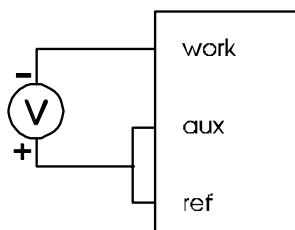

Fig. 4. Connection of the voltmeter.
5. Connect a voltmeter to the cell connections (see Fig. 4).The readout of the voltmeter must be $0 \text{ mV} \pm 1 \text{ mV}$
3. Connect a voltmeter to the cell connections. (see Fig. 4).